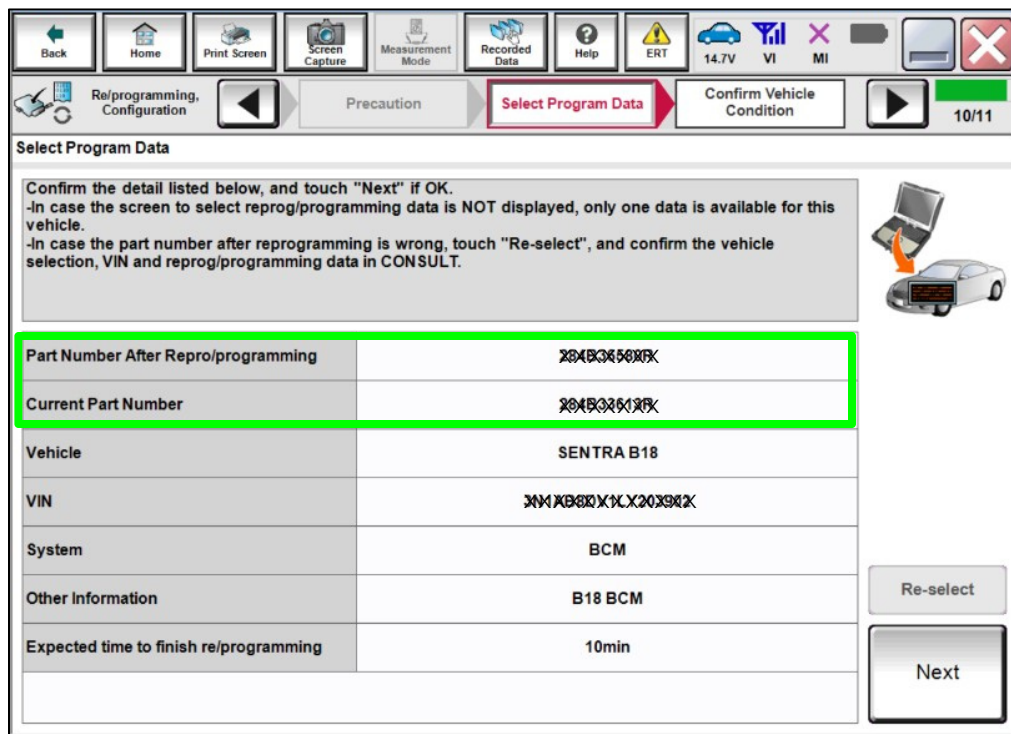

Figure 12
15. Read the **Current Part Number** and **Part Number After Repro/programming**. They should be different (Figure 12).